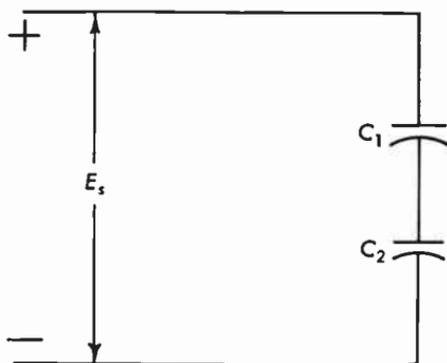

Fig. 11.25 Direct voltage E_s applied across two capacitors in series.
11.25 In Figure 11.25 $E_s = 120$ volts, $C_1 = 4$ microfarads, $C_2 = 8$ microfarads. Find the voltage E_2 across the plates of the capacitor C_2 . Also find a general formula for E_2 in terms of E_s , C_1 , and C_2 .